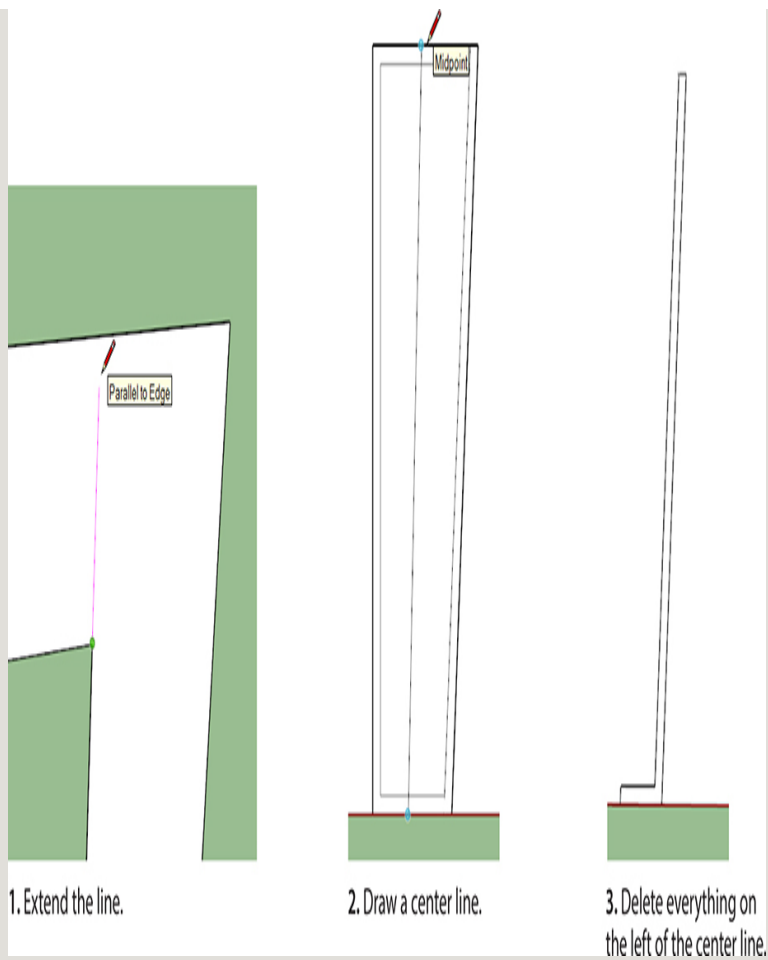

Figure 3-105 Delete the left half of the profile.
3. Cut the profile in half (Figure 3-105). First, draw a line parallel to the profile's edge, as shown in Figure 3-105's first graphic. Encourage the Parallel to Edge inference to appear by touching the Pencil on the profile's edge and moving it slowly back to the left. When the Parallel to Edge inference appears, the line will be magenta. Then draw a vertical line through the center of the whole profile. Delete everything to the left of that line.